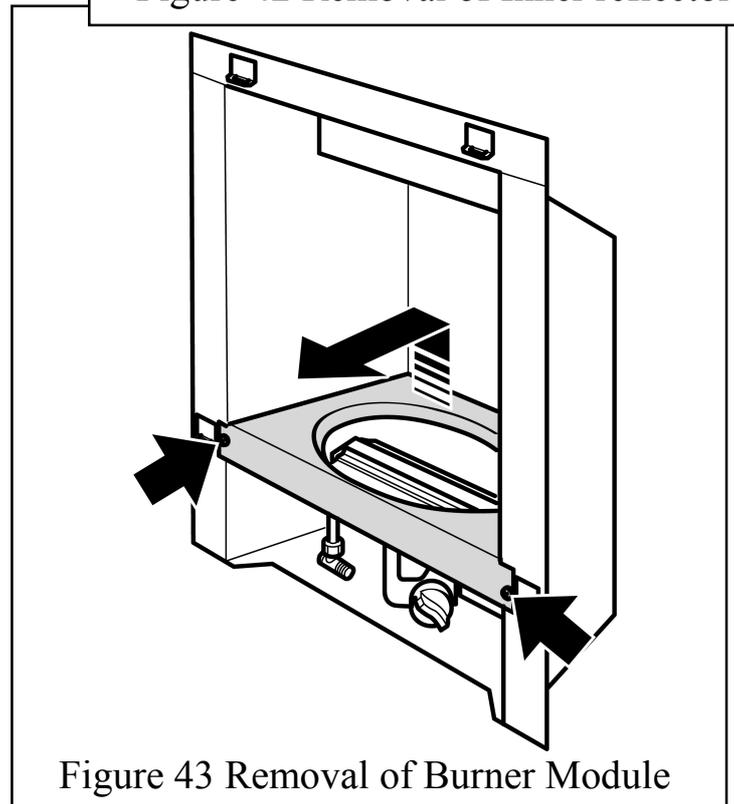

Figure 43 Removal of Burner Module
6. Remove the two screws to the side of the burner cover (See figure 43)
7. Detach the burner cover by lifting clear of the burner module (See figure 43). Place the burner cover in a safe place away from the work area.